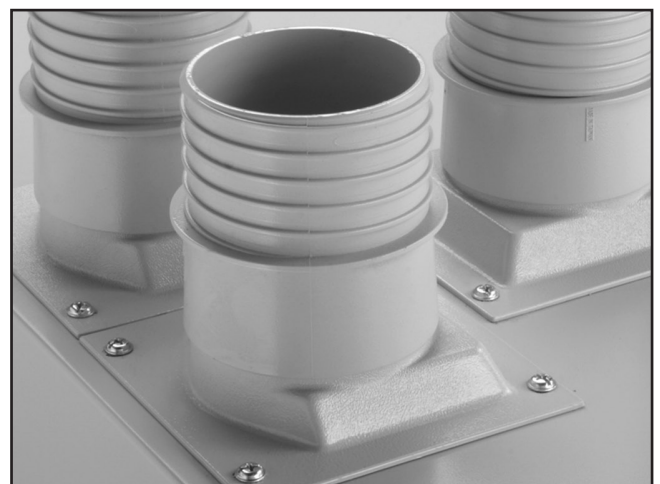

Figure 13. A typical screw configuration.
1. Install all ten dust ports (**Figure 13**) to the mounting locations on the top of the sanding unit with the supplied M6-1 x 10 Phillips head screws.